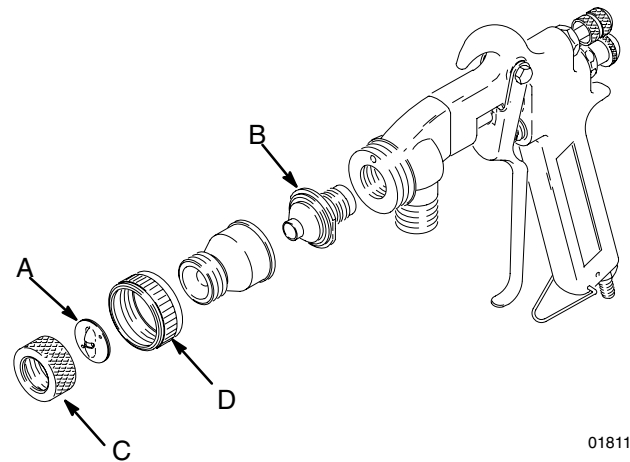

Fig. 6
12. See page 9 for disc and nozzle recommendations. Install the disc (A) and nozzle (B) on the gun, as shown in Fig. 6. Tighten the retaining rings (C and D) snugly, but do not use a wrench.
13. Add Throat Seal Liquid, supplied, to the pump wet cup (B) until it is visible at the top of the cup.
14. Check the engine oil level. Refer to the Honda engine manual, supplied. In summary: remove one oil fill plug (E) – the oil should be almost overflowing. Add oil as necessary. Also read the **Maintenance** section on page 12.